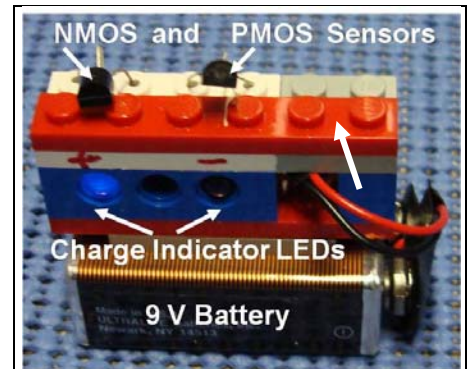

Fig. 3A New version of NMOS sensor product shown in Fig.2.
- When you bring the charged polycarbonate sheet close to the sensor, you will find that the LED in the NMOS area of the sensor lights up (the new version of the sensor shown in Fig. 3A will be used in the session), meaning that the charge on the polycarbonate sheet is positive. Now try rubbing different materials on cloth